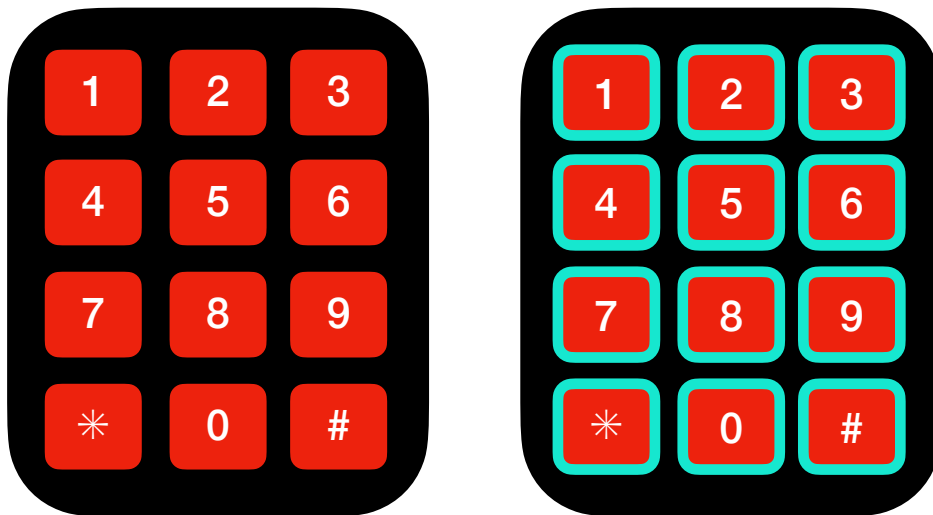

Figure 1. A Keypad (a) the backlight is off (b) the backlight is on.
- There will be a keypad to enter the password to lock or unlock a door (Figure 1.a) Whenever the correct password is entered, the lock is open or closed.
- The keypad lock can be used both indoors and outdoors. When the environment is dark, backlight should be turned on so as to make the buttons visible (See Figure 1.b)